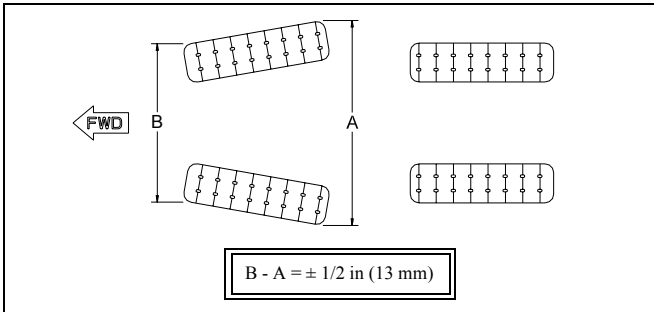

Figure 10
The parallelism must be adjusted with the ATV on the ground, driving forward on about 10 feet (3 m) and measuring toe in distance. It should be  $\frac{1}{2}$  inch (13 mm) less at the front (B) than at the back (A) (refer to Figure 10).